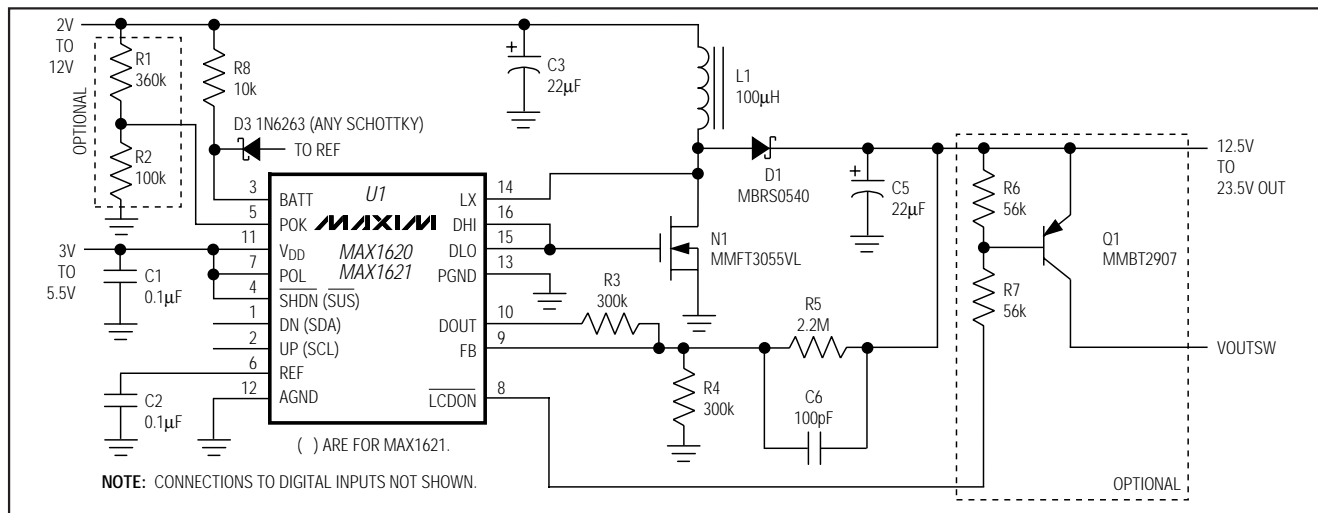

Figure 4. Typical Operating Circuit—Positive Output
To select a positive output voltage, tie the polarity pin (POL) to  $V_{DD}$  and use the typical boost topology shown in Figure 4. FB regulation voltage is 1.5V. For optimum stability,  $V_{OUT}$  should be greater than 1.1 ( $V_{BATT}$ ).
To prevent uncontrolled boosting when the output is disconnected, the feedback resistors must sense the boosted voltage rather than the output of the  $\overline{LCDON}$  switch (Figure 4).
Separate voltage sources can supply the inductor (L1) and the IC ( $V_{DD}$ ). This allows operation from low-voltage batteries as well as high-voltage sources because chip bias (150 $\mu$ A) is provided by a logic supply (3V to 5.5V) while output power is sourced directly from the battery to L1. Conversely, L1 and  $V_{DD}$  can also be supplied from one supply if it remains with  $V_{DD}$ 's operating limits (3V to 5.5V). If L1 and  $V_{DD}$  are fed from the same voltage, D3 and R8 (Figures 4, 5, 6, and 10) can be omitted, and BATT may be connected directly to  $V_{DD}$ .
The minimum output voltage is set with a resistor-divider (R4-R5, Figure 4) from  $V_{\text{OUT}}$  to AGND. The FB threshold voltage is 1.5V. Choose R4 to be 300k $\Omega$  so that the current in the divider is about 5 $\mu\text{A}$ . Determine R5 as follows:
The DAC is adjustable from 0V to 1.5V in 32 steps, and  $1\text{LSB} = 1.5\text{V} / 31$ . DAC adjustment of  $V_{\text{OUT}}$  is provided by adding  $R_3$  to the divider circuit (Figure 4). Be sure that  $V_{\text{OUT,MAX}}$  does not exceed the LCD panel rating.
- 3) As an input sensing output cutoff for positive outputs. Connect POK to a voltage divider to sense the input voltage. The output is switched on only when the input reaches the set level (Figure 4).
To control the open-drain output  $\overline{\text{LCDON}}$  by sensing the input voltage, connect a resistor-divider ( $R_1$ - $R_2$ , Figure 4) from  $V_{\text{BATT}}$  to POK. Choose  $R_2 = 100\text{k}$ . For example, if the minimum battery voltage is 5.3V, determine  $R_1$  as follows: